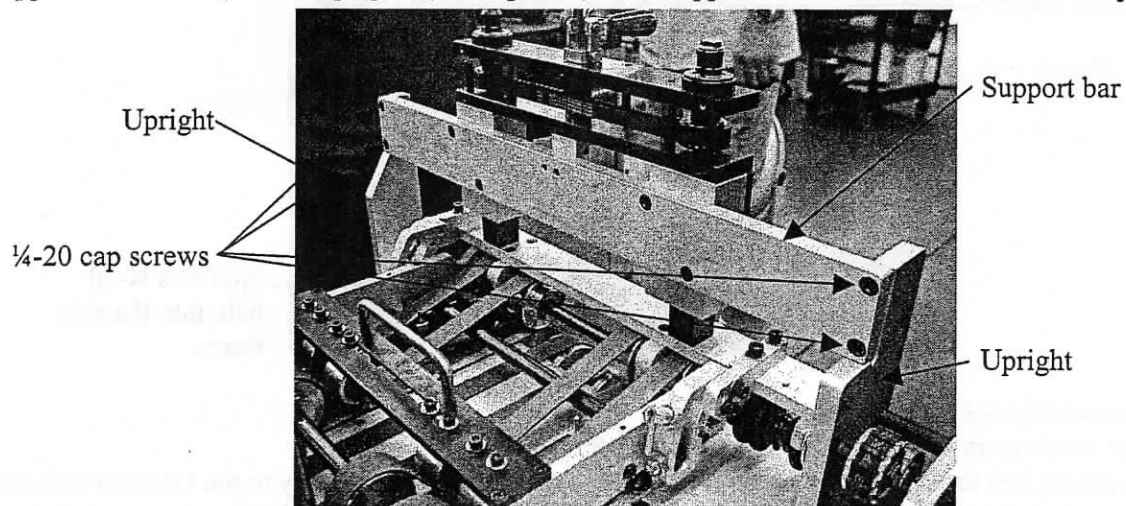

Figure 4
9. If the gaps aren't to specification adjustment is required. First loosen the four 1/4-20 cap screws that secure the upper belt assembly to the uprights (see Figure 4). The support bar is slotted for horizontal adjustment.